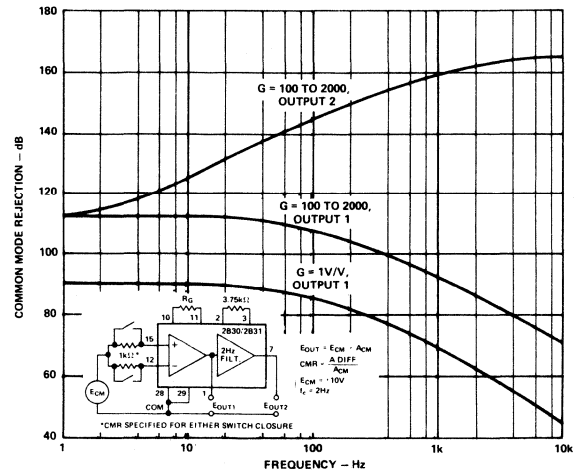

Figure 12. Common Mode Rejection vs. Frequency and Gain
**Common Mode Rejection:** CMR is rated at  $\pm 10\text{V}$  CMV and  $1\text{k}\Omega$  source imbalance. The CMR improves with increasing gain. As a function of frequency, the CMR performance is enhanced by the incorporation of low pass filtering, adding to the  $90\text{dB}$  minimum rejection ratio of the instrumentation amplifier. The effective CMR at  $60\text{Hz}$  at the output of the filter ( $f_c = 2\text{Hz}$ ) is  $140\text{dB}$  min. Figure 12 illustrates a typical CMR vs. Frequency and Gain.